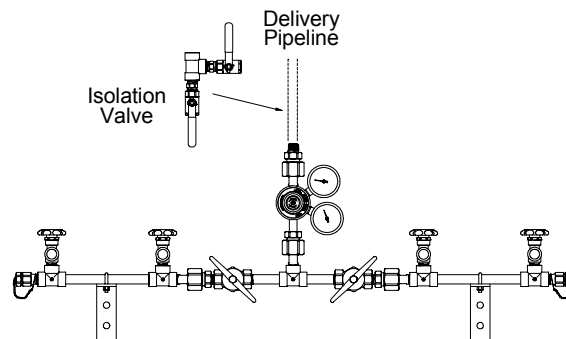

FIGURE 6
1. A 1/2" NPT male union is supplied with the control and is located at the upper most part of the manifold control. Connect this union to the pipeline system. Sweat joints must be silver soldered. Use BAg series silver solder (DO NOT USE SOFT SOLDER). Heat the entire joint evenly. Apply enough heat favoring heavy sections, so that solder flows freely around the joint leaving no pin holes. The piping shall be purged during the brazing process. (Purging will prevent scale from forming on the inside of the piping during the brazing process). The union provided permits removal of the manifold control for service. (Figure 6)
4. Installation of a shut-off valve to isolate the pipeline during service to the manifold is recommended. (Figure 6)